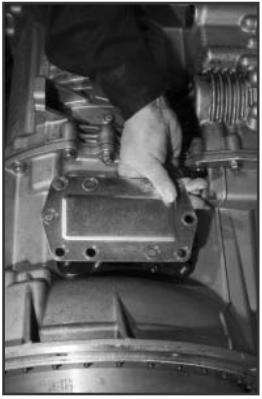

Fig. 4
4. Using a screwdriver, install the dowel pins until they bottom out (**Fig. 4**)